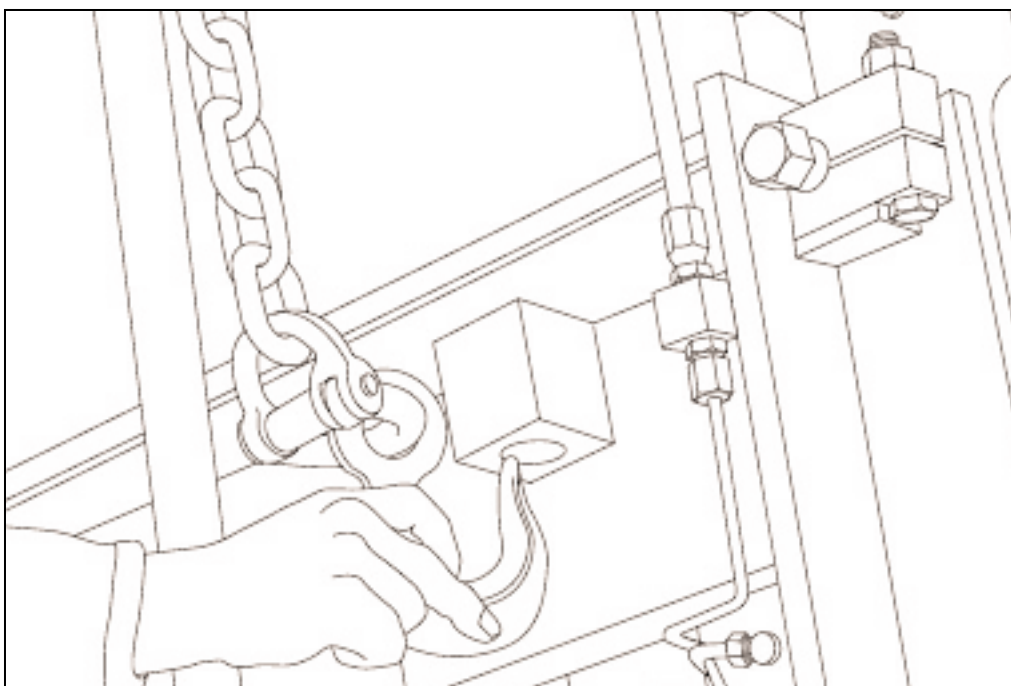

Figure 5.4 ATTACHING STRIPPER HEAD FRAME WITH SAFETY CHAIN.
- 5.3.14 Jog machine to bring stripper head high enough to connect safety chain (figure 5.4).
- 5.3.16 Hook safety chain as shown in figure 5.4.